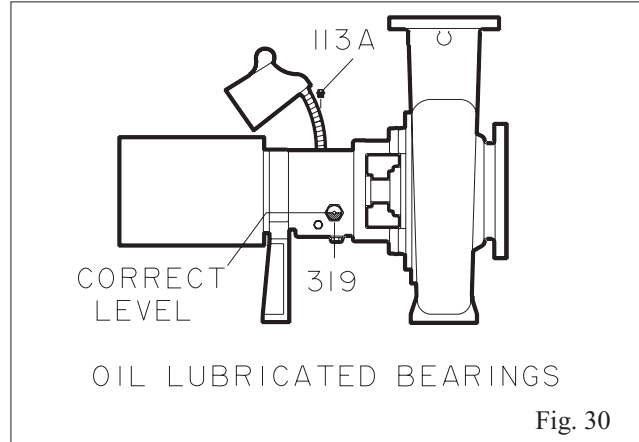

Fig. 30
Remove fill plug (113A) and add oil until level is at the center of the sight glass (319). Replace fill plug (Fig. 30) (See *Table 6*).